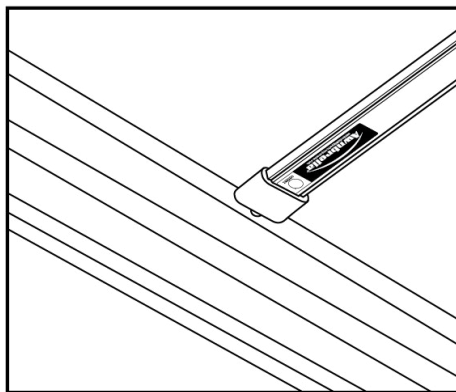

Fig.29
3. Slide the pointed tip of the arm into the hole in the roller tube (Fig.29).